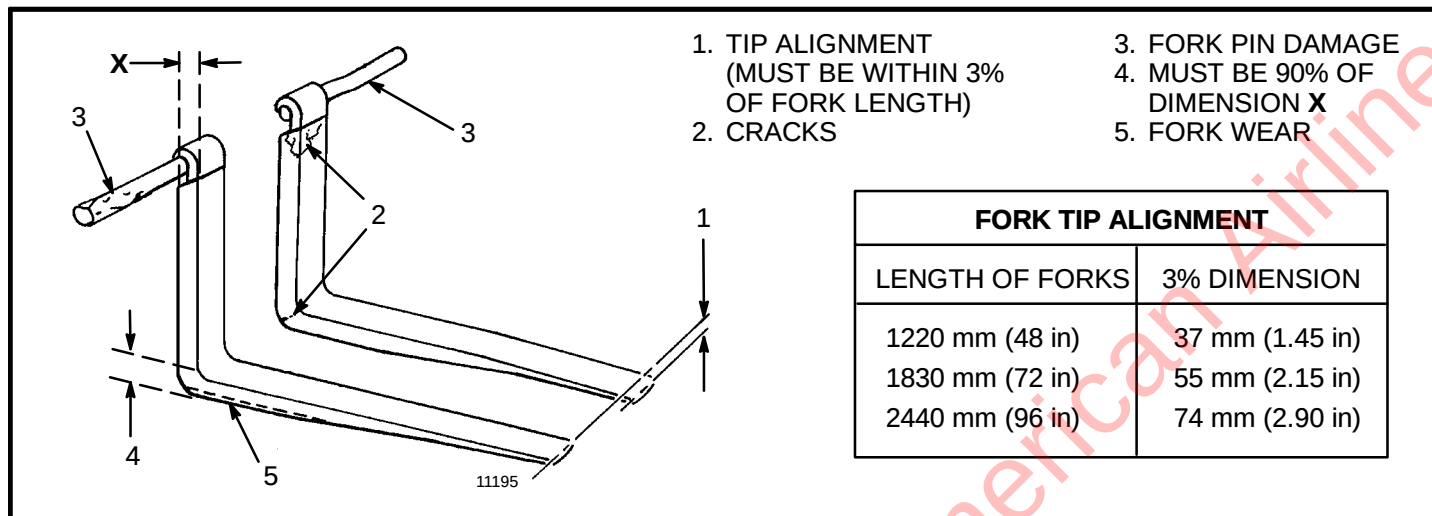
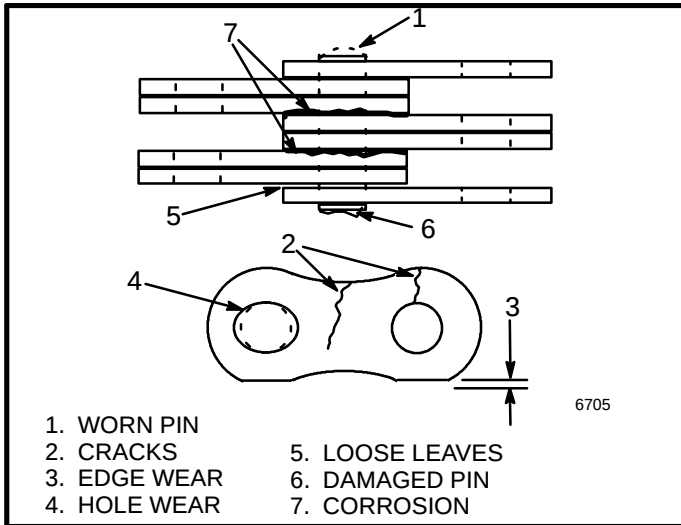

FIGURE 17. CHECK THE FORKS
FIGURE 18. CHECK THE LIFT CHAINS
Inspection Of Forks, Mast And Lift Chains (See FIGURE 17. and FIGURE 18.)
3. Inspect the forks for cracks and wear. Check that the fork tips are aligned within 13 mm (0.5 in) of each other (item 1, FIGURE 17.). Check that the bottom of the fork is not worn (item 4, FIGURE 17.).
7. Inspect the lift chains for cracks or broken links and pins. See FIGURE 18.